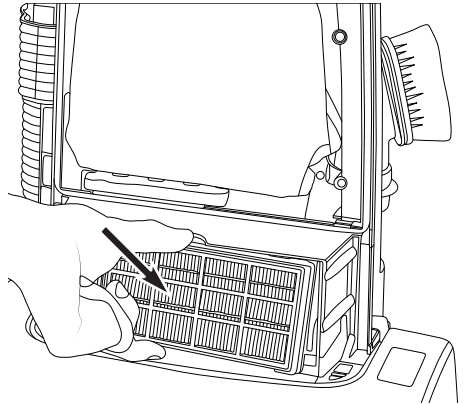

Fig. 2
2. Remove the HEPA Exhaust filter from the front of the bag compartment. (Fig. 2)